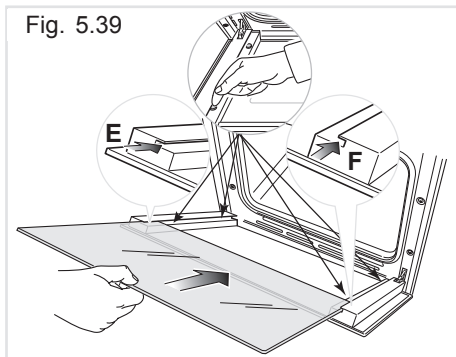
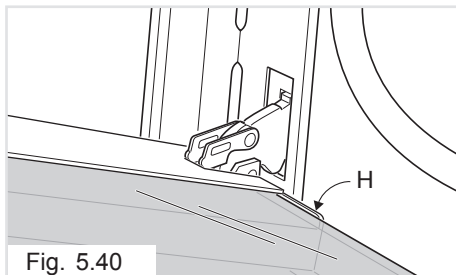

Fig. 5.39
Fig. 5.40
**IMPORTANT:** It is advisable, while refitting the glass, to keep pressed in position the four rubber pads "D", by a finger, to avoid breakage or slippage of the rubber pads themselves (fig. 5.39).
- Insert the pane in the left "E" and right "F" slide guides (fig. 5.39), and gently slide it to the retainers "H" (fig. 5.40).